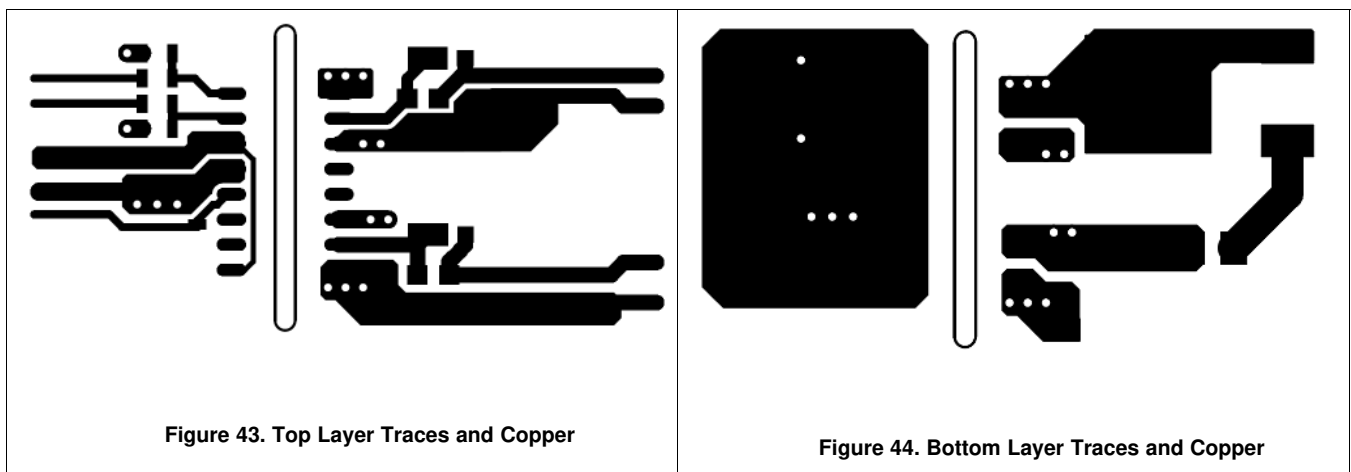
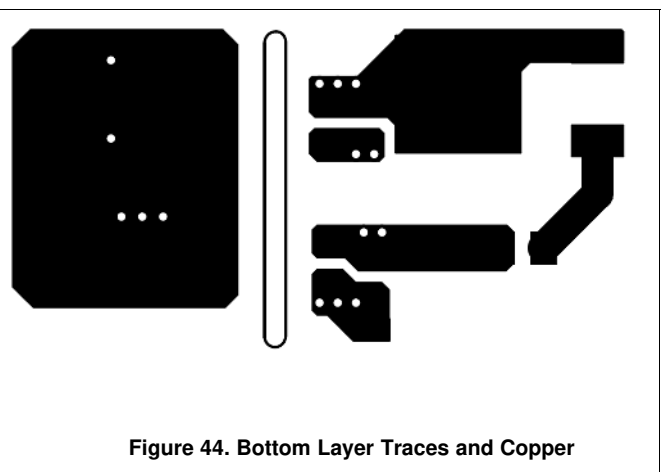

Figure 43. Top Layer Traces and Copper
Figure 44. Bottom Layer Traces and Copper
- Increasing the PCB copper connecting to VDDA, VDDB, VSSA and VSSB pins is recommended, with priority on maximizing the connection to VSSA and VSSB (See Figure 43 and Figure 44). However, high voltage PCB considerations mentioned above must be maintained.
Figure 43 and Figure 44 shows top and bottom layer traces and copper.